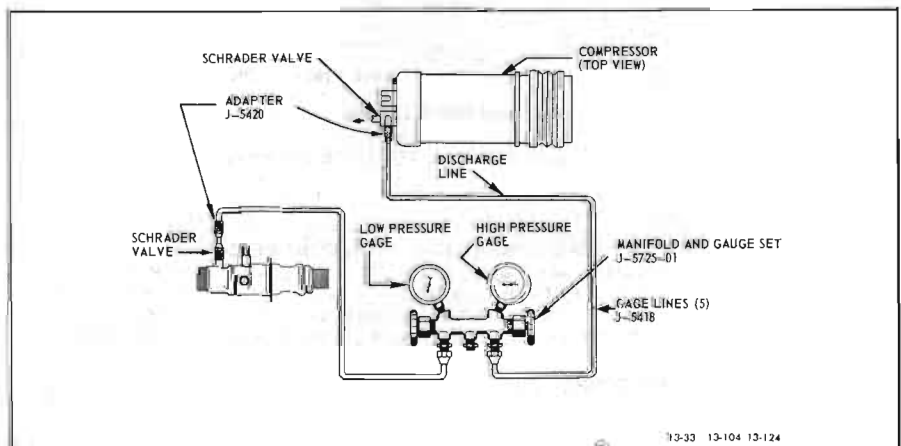

Figure 13-33—Set Up for Discharging System
2. Install Adapters T-5420 onto each Schrader valve, see Figure 13-33 and connect a Gauge Charging Line (J-5418) between each adapter and the outer connecting ports of the manifold and Gauge Set (J-5725-01). Both valves of manifold and gauge set must be closed.